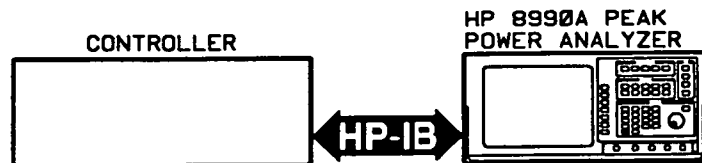

Figure 2-17. Signal Path Adjustment Setup (Controller)
10. Connect the equipment as described on the screen and as shown in figures 2-17 and 2-18.